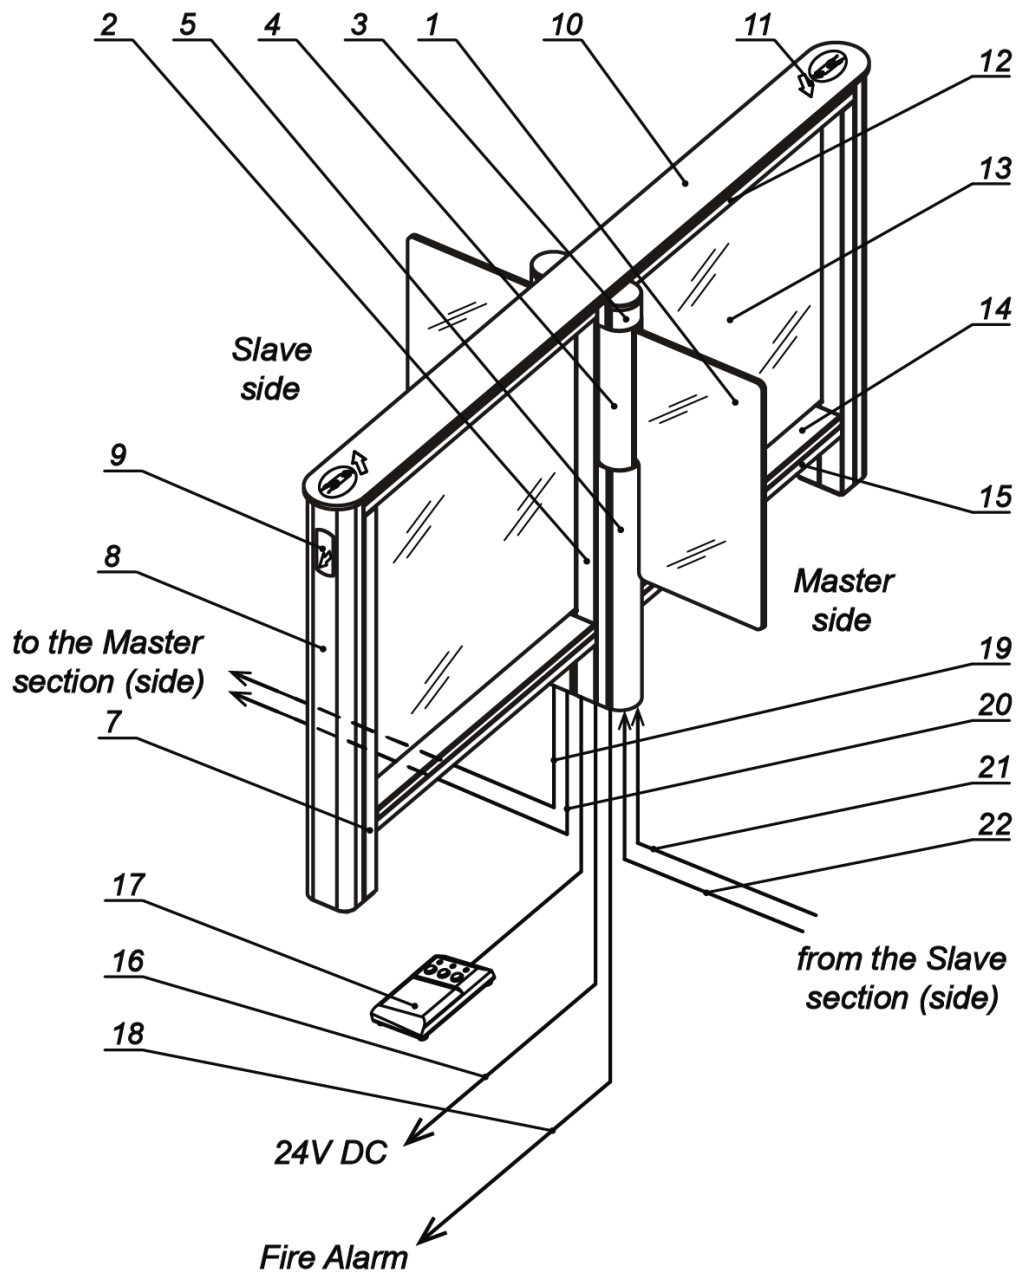

Figure 8. STD-01 overall view:
RC-panel (17) is a small table device made of shockproof ABS plastic. RC-panel is designed for speed gate operation in the manual mode, in which the operator sends commands to the equipment. The overall view of the RC-panel is shown in Fig. 8.